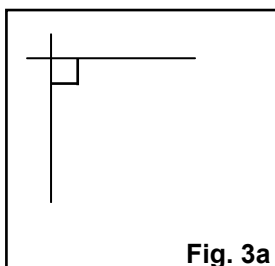
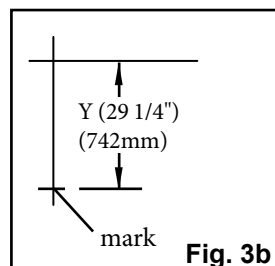
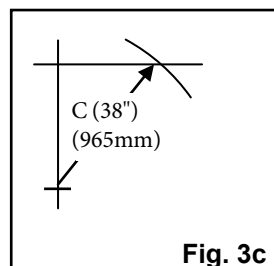
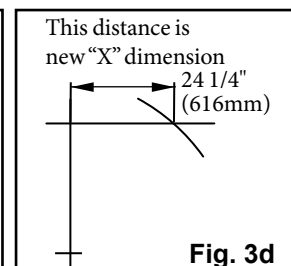

Fig. 3a
Fig. 3b
Fig. 3c
Fig. 3d
- Determine final dimension.** On a flat vertical surface, using a level, draw one horizontal line and one vertical line, creating a right angle (Fig 3a). Measure down from the intersection the determined “Y” dimension and mark (Fig 3b). With the tape measure starting at the modified “Y” mark, swing the tape across the “X” line and mark at the “C” dimension where it crosses the “X” line (Fig 3c). Measure from the intersection to the “C” intersection and this will be your new “X” dimension (Fig 3d).